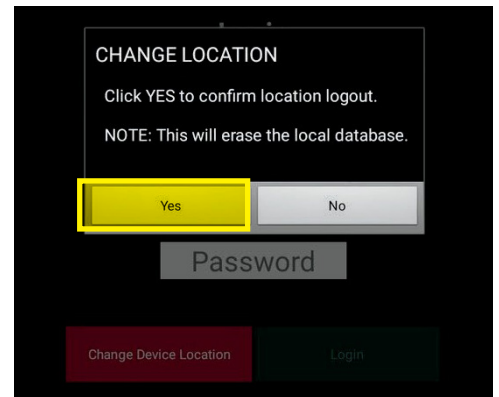

Figure 23
8. Confirm Yes on popup (Figure 23).